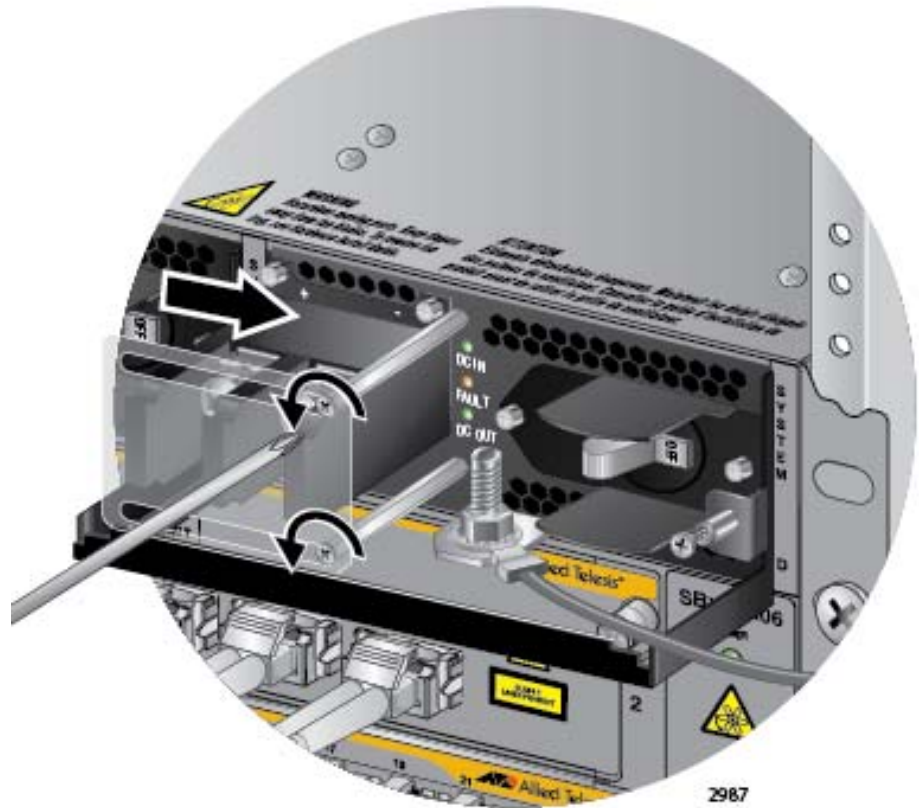

Figure 134. Opening the Plastic Cover
4. Use a #1 Phillips-head screwdriver to loosen the two screws on the plastic cover over the positive and negative terminals on the power supply and slide the cover to the right, as shown in Figure 134 on page 207. You may need to slightly lift the locking handle to access the bottom screw.
2. Use a #1 Phillips-head screwdriver to loosen the two screws on the plastic cover over the positive and negative terminals on the power supply and slide the cover to the right, as shown in Figure 134 on page 207. You may need to lift the locking handle slightly to access the bottom screw.